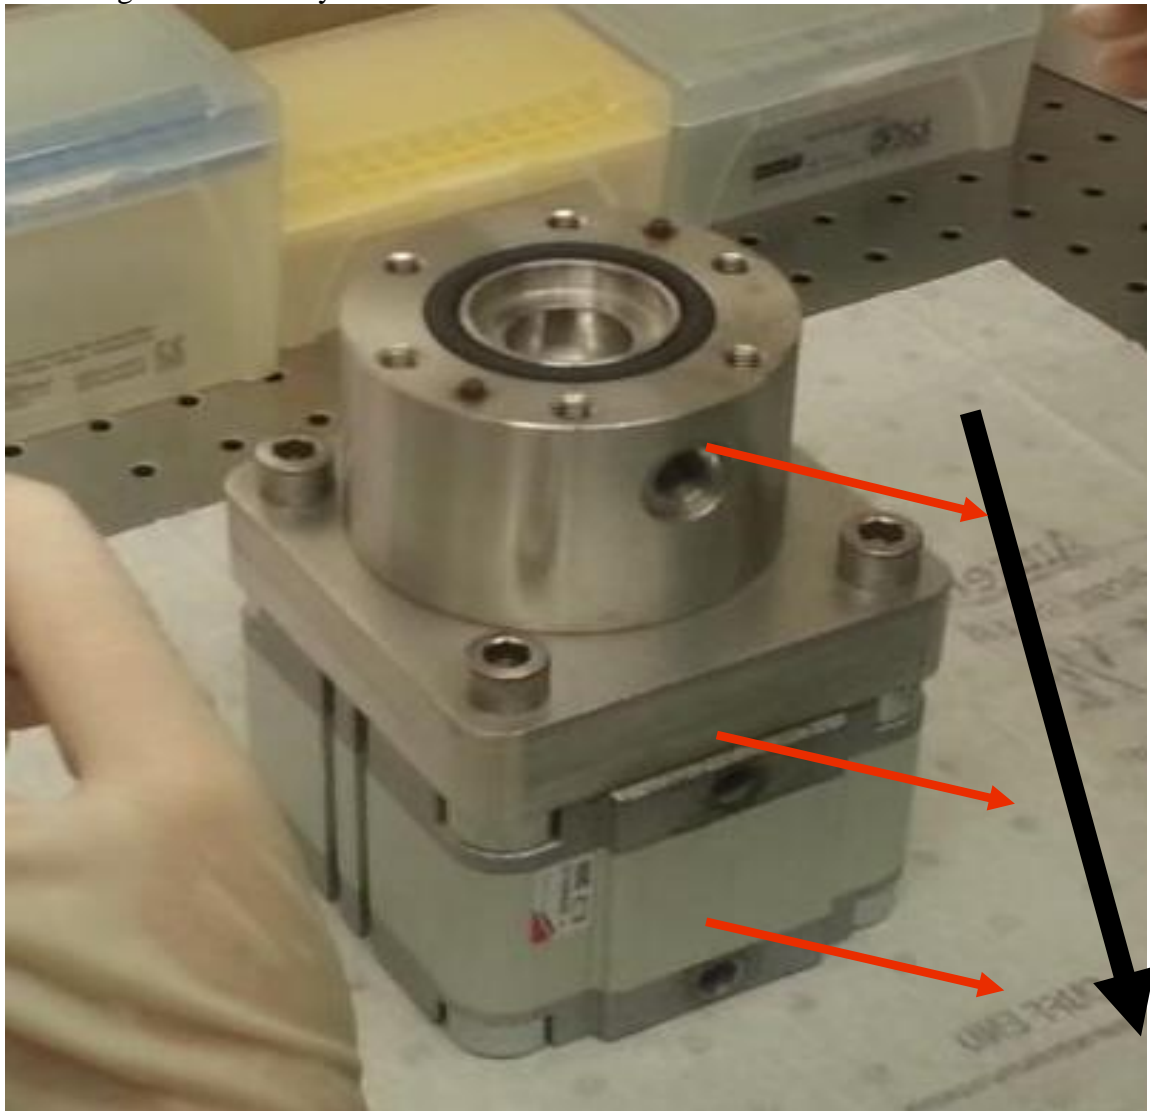

Figure 11. Holes alignment.
- Extract the sterile components from **envelope 2 and 3**. Place the bioreactor base on the piston base. Align on the same side the air pressure inlet hole of the piston base and the hydraulic inlet hole of the bioreactor base (Fig.11).